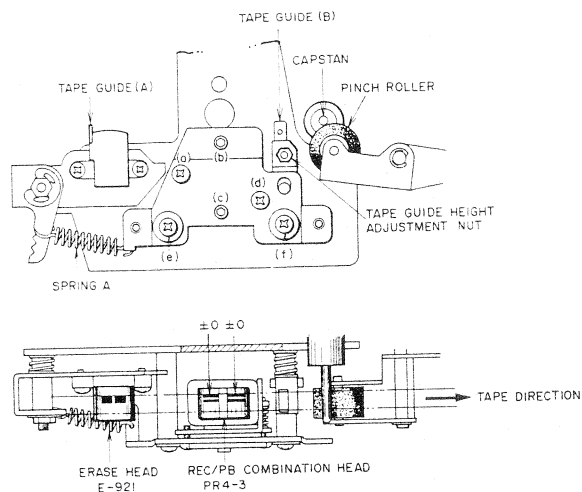

Fig. 16
### 1. TAPE GUIDE HEIGHT ADJUSTMENT (Refer to Figs. 16, 17)
### 2. HEIGHT ADJUSTMENT OF RECORDING/PLAYBACK COMBINATION HEAD (Refer to Fig. 16)
- 2) As shown in Fig. 16 adjust head height with screws (a), (b), (c) and (d) until the upper edge of the left channel REC/PB combination head core.
### 3. AZIMUTH ALIGNMENT ADJUSTMENT OF RECORDING/PLAYBACK COMBINATION HEAD (Refer to Fig. 16)
### 4. RECORDING/PLAYBACK COMBINATION HEAD PROJECTION ADJUSTMENT (Refer to Figs. 16, 18)